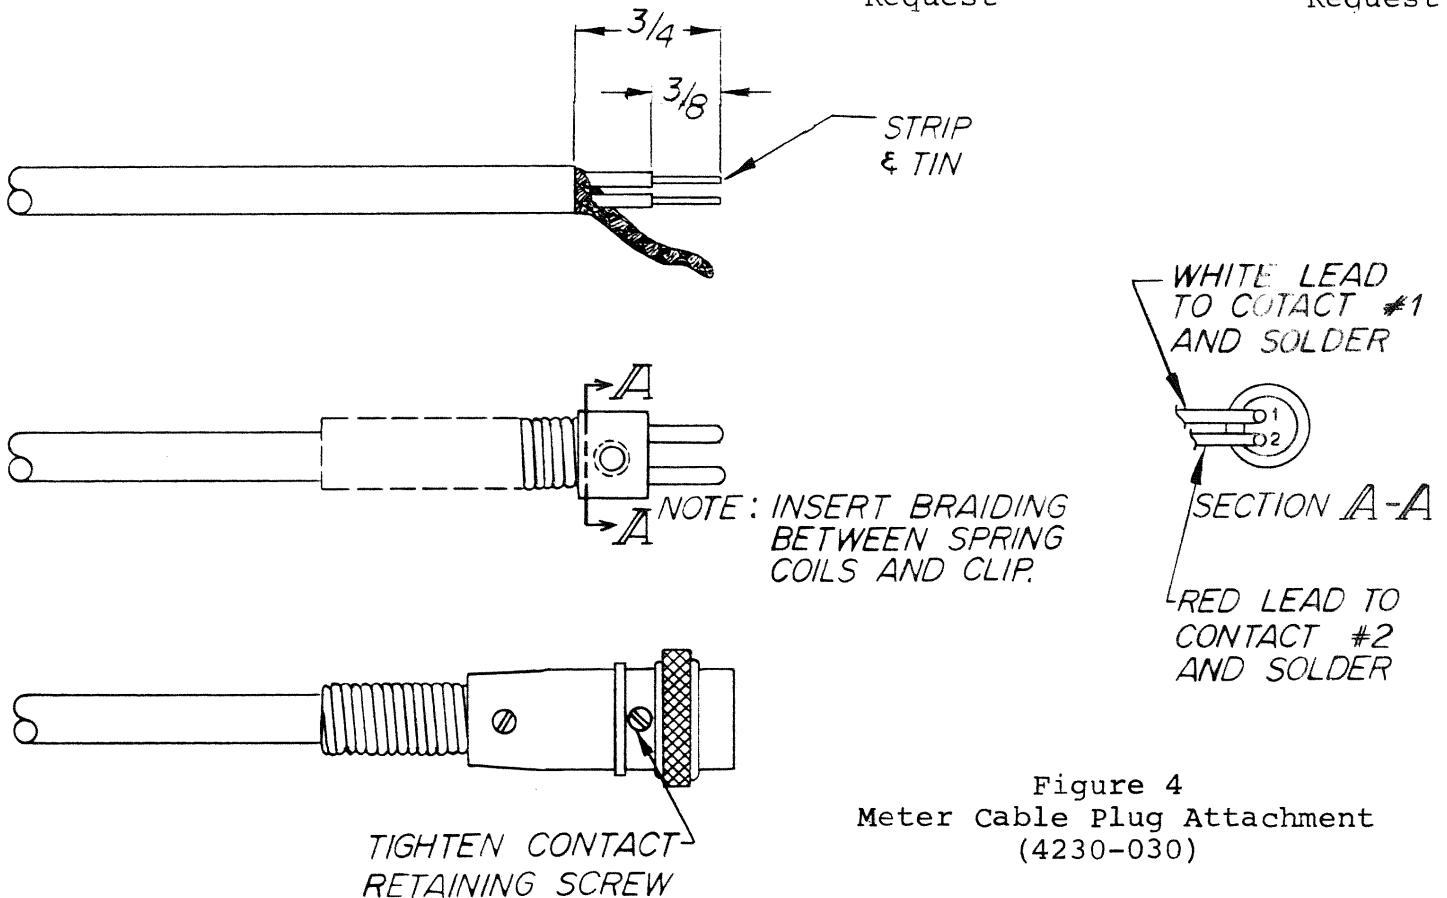

Figure 4
a. Meter Cable Assembly (4230-030⁴), Figure 4. Use Male Connector Plug P/N 5-665, a two-conductor #18 wire cable, Bird P/N 5-704, of the length desired. To attach the plug, loosen the set screw at the back of plug body and pull out the coil spring. Remove and keep the small flat-head retaining screw body. With parts facing the proper direction, slide first the body then the coil sleeve (small turns inward) onto the end of the cable.